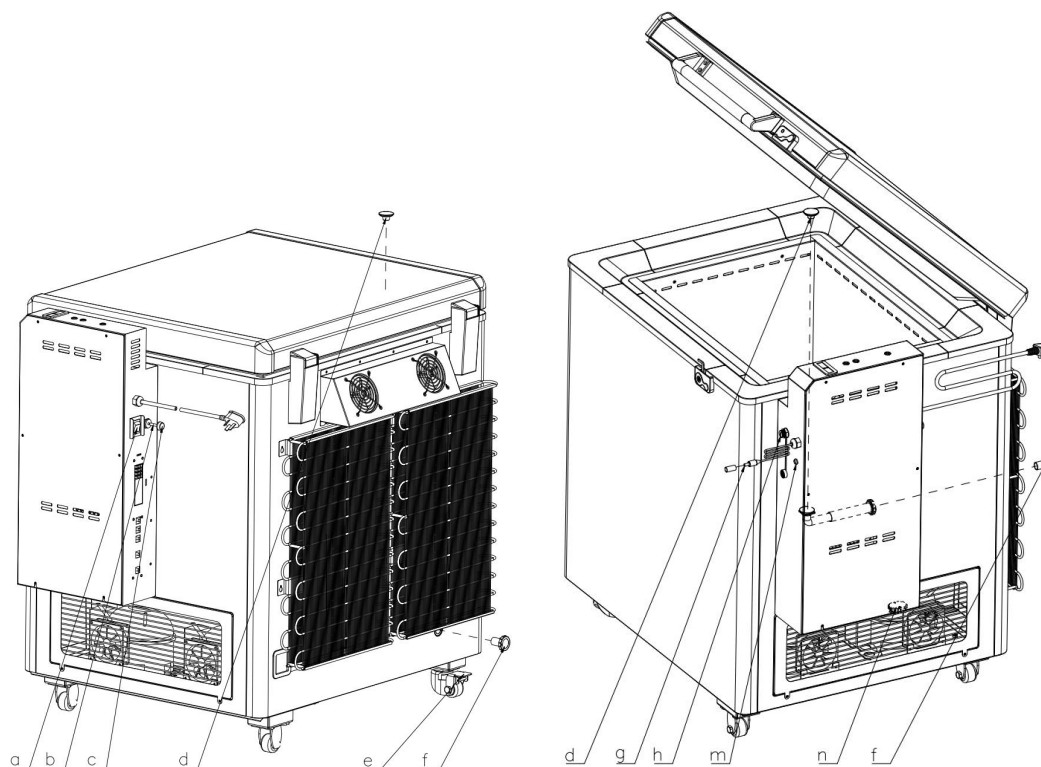

Figure 1
- ① After the equipment is placed, leveled and cleaned, it shall stand for more than 24 hours, and then power it on to ensure the normal operation of the equipment. In the figure 1, please lock the the universal wheel (press the "e" button). If you need to move the device, please unlock the universal wheel (lift up the "e" button).
- ② In the case of empty container, connect the refrigerator to the power supply of appropriate specification
- ③ When the power is turned on, the display panel display will light on.
- ④ Before leaving the factory, the corresponding parameters have been set. No manual setting is required.
- ⑤ After approximately 3 to 4 days of running, the refrigerator temperature can reach a reasonable temperature range.
- ⑥ Try not to open the door during cooling, otherwise the temperature will rise.
- ⑦ After completion of the inspection on the running of the refrigerator and after the temperature reducing to a reasonable range, add items in the refrigerator.
- ① The equipment has a memory function for the set value. When the power is restored after power failure, the equipment will continue to operate before
◆ In the figure 1, Power switch "a" is located on the left of the equipment: "0" means off, "1" means on.
◆ RS485 2 wire port to connect with any MODBUS compliant slave. In the figure 1, its code is "n".
◆ In the figure 1, press "m" key for 10 seconds to completely start the battery. At this point, the red status LED will illuminate for 4 seconds. Afterwards, the logger will be activated.
◆ Barrel-type male plug outputs a voltage of 5V and a current of 1A, and can only charge devices that meet these parameters. In the figure 1, its code is "g".
◆ USB Type-C female receptacle shall be used for data download by external devices and power supply from external devices to the logger in the event the logger's energy storage is depleted. In the figure 1, its code is "h".
◆ There is an outer plug "f" and an inner plug "d" as shown in the figure 1. Prepare the water box before draining. Remove "f" and "d" and drain the
- ◆ In the figure 1, Find the fuse holder "c", unscrew the screws of the fuse holder, take out the fuse holder "b", put in the new fuse, and tighten the fuse holder.